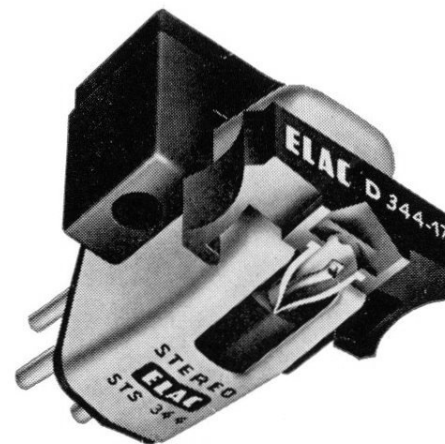

Fig. 14
6.2 Hi-Fi-Magnetic Cartridges (Fig. 14)